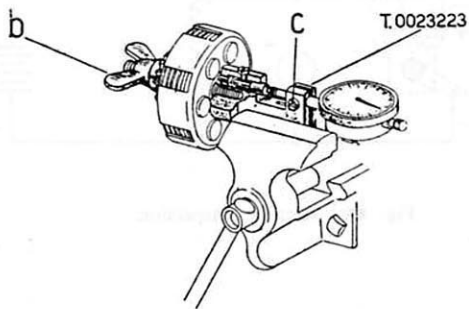

Fig. 81
The tool T.0023223 (see Fig. 81) is required for dismantling the clutch unit, as follows.
- (a) Provide the tool T.0023223 with a dial gauge to be secured with screw "c" (Fig. 81).